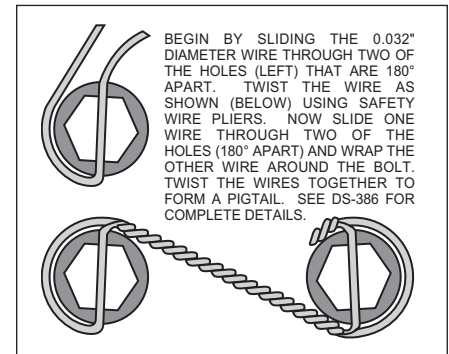

Figure 3. Safety Wire Diagram
- With the larger I.D. side of the rotor (3) facing away from the hat (4), bolt rotor (3) to hat (4) through the backside of the rotor using washers (5) and bolts (6). Torque bolts (6) to 85 in-lb. Safety wire bolts (6) using standard 0.032 inch diameter stainless steel safety wire as shown in Figure 3. Please refer to Wilwood's data sheet DS-386 (available at www.wilwood.com/pdf/ds386.pdf) for complete safety wire installation instructions. Slide the rotor/hat assembly onto the spindle. Install a couple of lug nuts (hand tighten) to keep the rotor/hat assembly in place while continuing with the installation.
- NOTE:** Please reference the caution statement at the beginning of the assembly instructions. With the bleed screws pointing up, mount the caliper (7) onto the caliper bracket (1) with the self locking hex nut (8), flat washer (9), through the top of the caliper and mounting stud (10) with flat washer (11) and spacer (12) positioned between caliper (7) and caliper mounting bracket (1). Finger tighten. View the rotor (3) through the top opening of the caliper (7). The rotor (3) should be aligned in the center of the caliper (7). If not, adjust the caliper (7) by using 0.035 inch thick shims (2) placed between the spindle assembly and the caliper mounting bracket (1). Finger tighten and recheck alignment. Lubricate caliper mounting studs and nuts with lightweight oil, reinstall the caliper, torque the caliper nuts to 30-35 ft-lb.
- Remove the bridge bolt from the caliper (7) and install the disc brake pads (13). Reinstall the caliper bridge bolt.